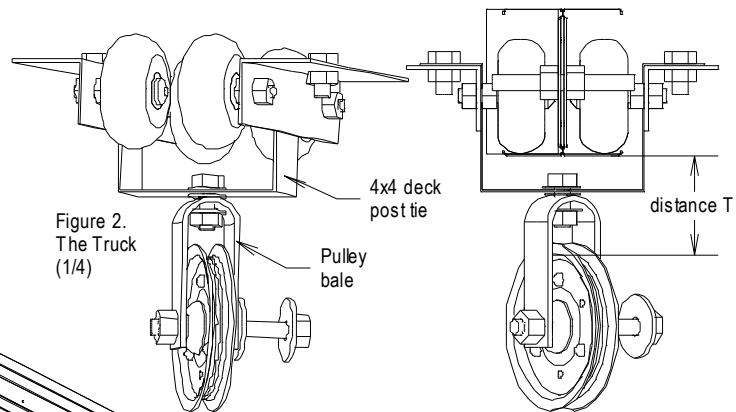

Figure 2.
1. Enlarge the center hole of a 4x4 deck post tie (Figure 2) to 5/16".
5. Assemble the truck as shown in Figure 2 using 5/16" washers or 3/8" nuts as spacers between the wheels and the angle irons.